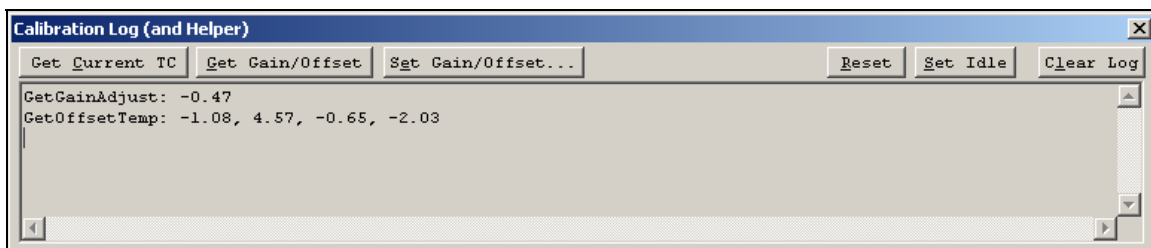

Figure 211: Hardware Utility – Calibration Status Log – Get Gain/Offset
**Get Gain/Offset** – Displays the currently stored Gain and Offset values for the *KIC Explorer*. See Figure 211.